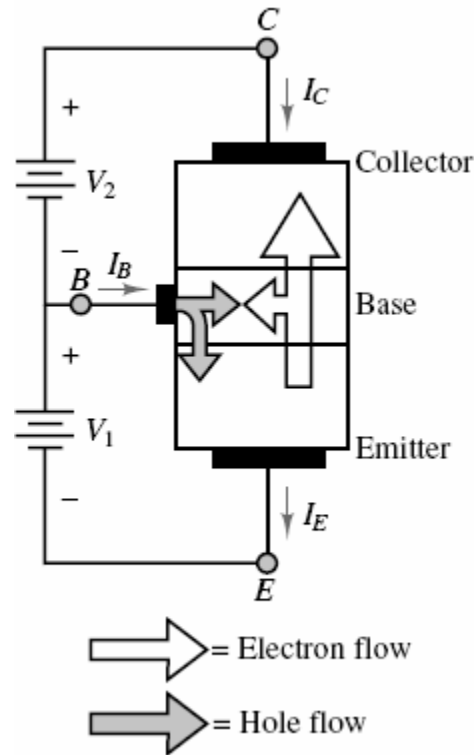

Figure 22. BJT action
Imagine, now, reverse-biasing the **base-collector (BC) junction**. In this case, an interesting phenomenon takes place: the electrons “emitted” by the emitter with the *BE* junction forward-biased reach the very narrow base region, and after a few are lost to recombination in the base, most of these electrons are “collected” by the collector. Figure 22 illustrates how the reverse bias across the *BC* junction is in such a direction as to sweep the electrons from the emitter into the collector. This phenomenon can take place because the base region is kept particularly narrow. Since the base is narrow, there is a high probability that the electrons will have gathered enough momentum from the electric
One can see from figure 22 that if KCL is to be satisfied, we must have: